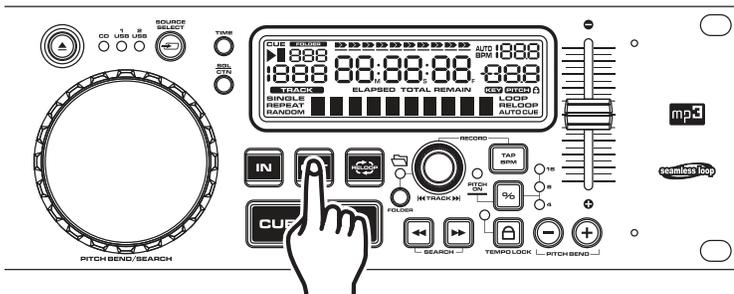

Figure 23
3) Press the *OUT BUTTON (17)* to set the ending point for your SEAMLESS LOOP (Figure 23). The *OUT* and *IN* BUTTONS will stay lit indicating a SEAMLESS LOOP is playing. Press the *OUT BUTTON* again to stop the Loop.
4) Press the *RELOOP BUTTON (17)* to reactivate the SEAMLESS LOOP. Press the *OUT BUTTON (17)* to deactivate the loop.